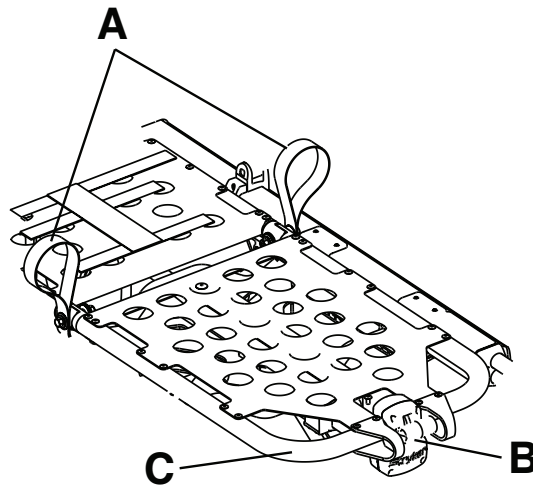

Figure 23 – Gatch
To lower the footrest, lift the frame and lift up on the footrest release handle (B) until the frame releases the support bracket (Figure 23). Lower the footrest until flat.
1. Lift either of the red lifting loops (A) until the knee Gatch is in the highest position (Figure 23).